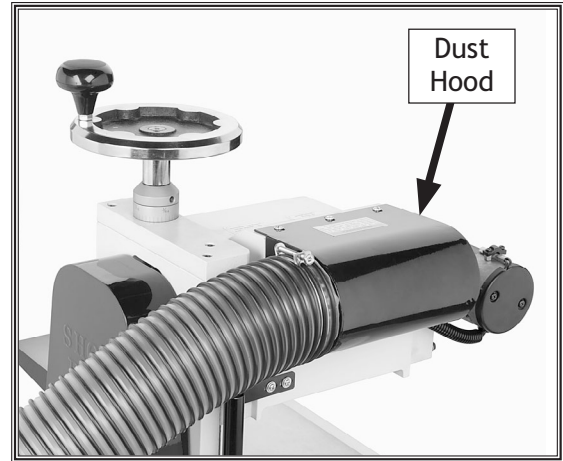

Figure 16. Installing the dust hood.
19. Install the dust hood (Figure 16) with three #10-24 x 1/2" flange screws.
20. Install a 4" flexible dust collector suction hose to the dust port, as shown in Figure 16.